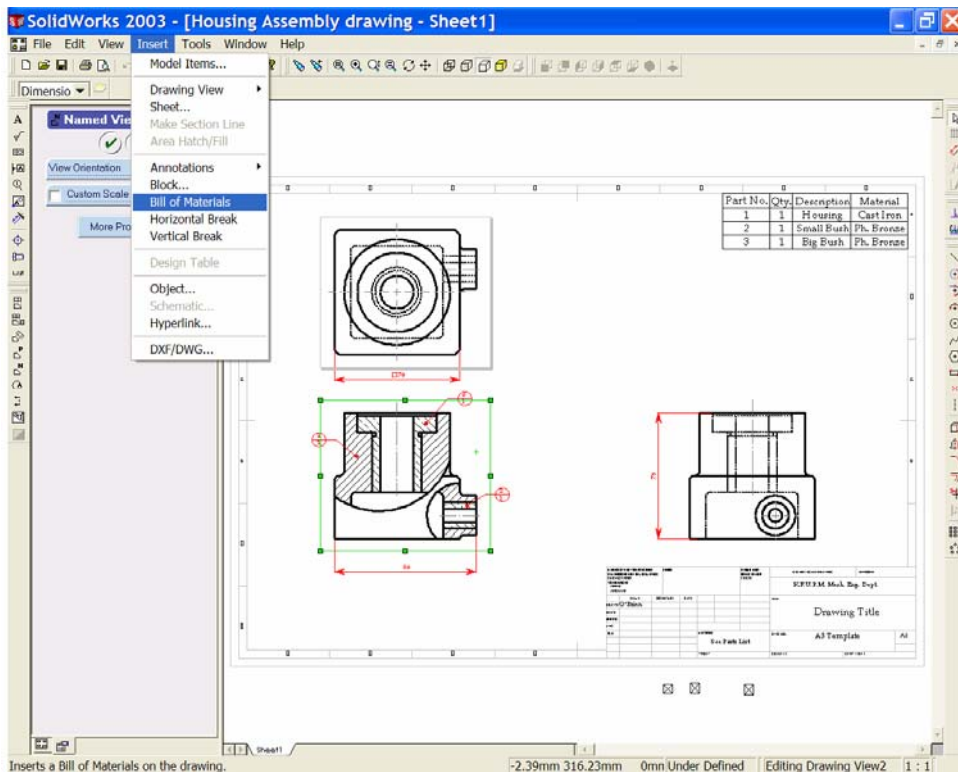

Figure 6
13. Left click to select the 'Elevation', and from the 'Insert' drop down menu choose 'Bill of Materials'. See Figure 6.